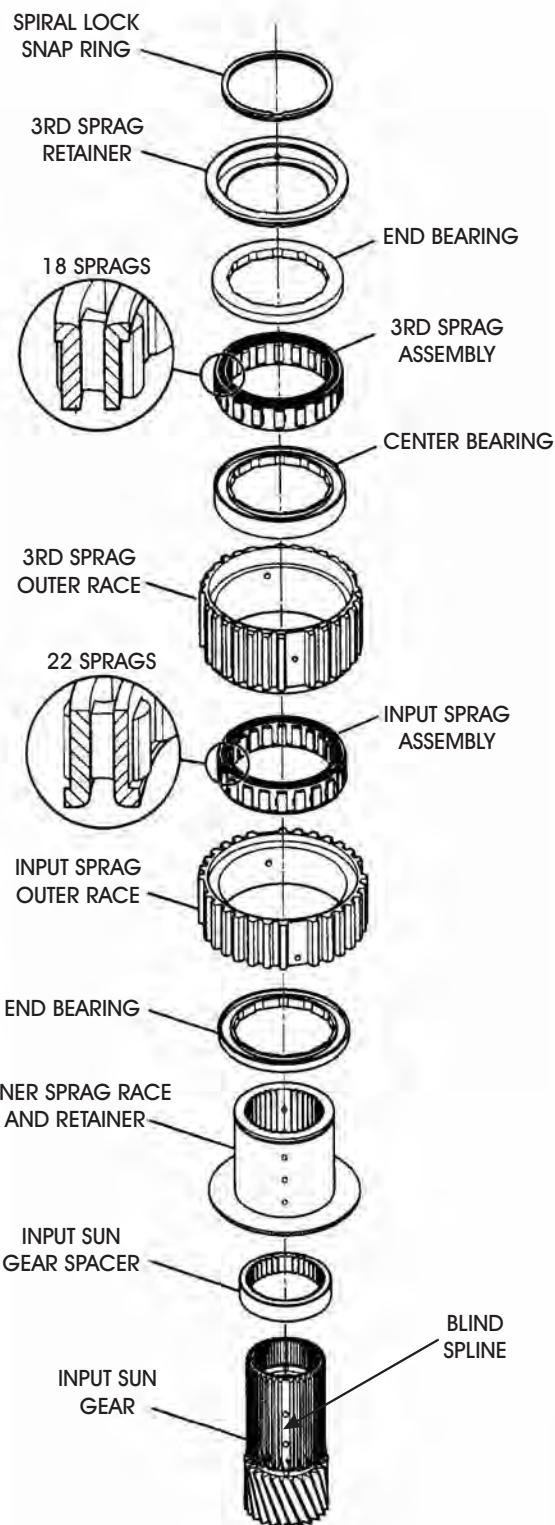
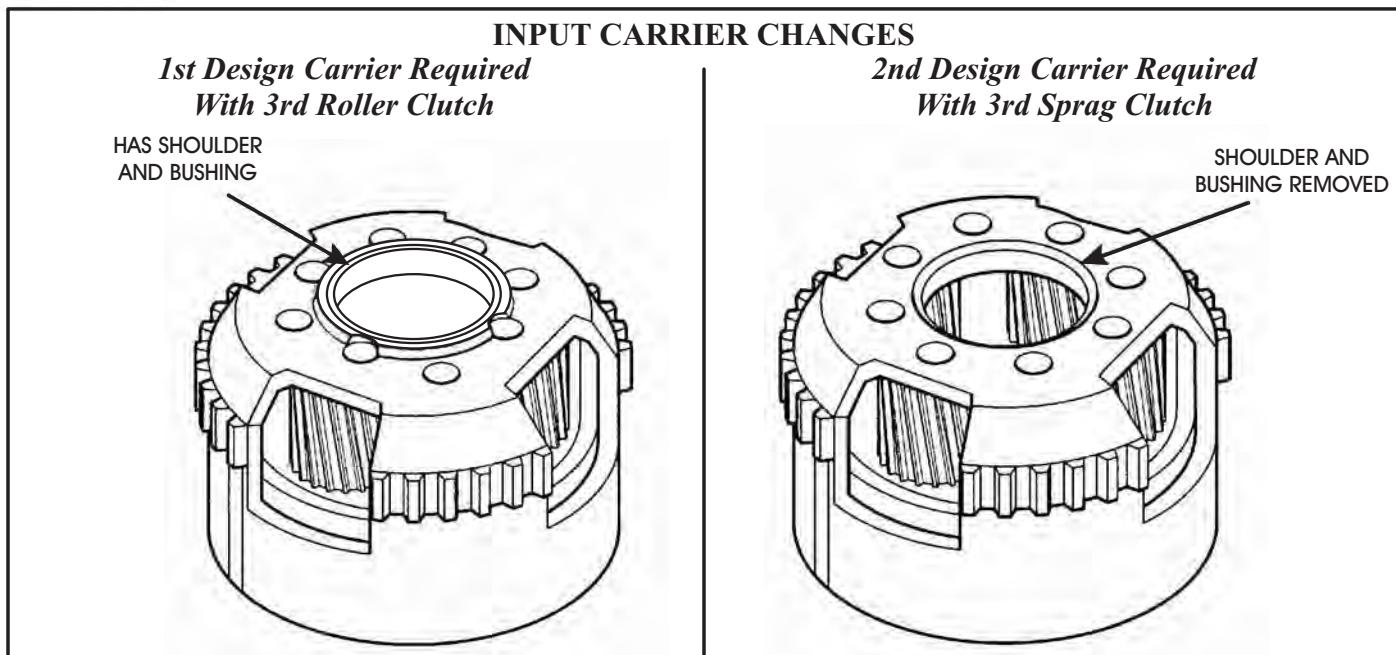

Figure 107
Figure 108
A new design dual sprag assembly replaces the previous 3rd roller clutch and input sprag assembly, as shown in Figure 107. This change occurred on February 1, 1993, as a running change. There are many dimensional changes that make the component parts of these two different design levels non-interchangeable. The new design dual sprag assembly is only serviced as a complete assembly. The new design dual sprag also required a revised input planetary carrier, as shown in Figure 108.
3. Assemble 3rd roller clutch parts while using Figure 107 as a guide.
9. Install the sun gear spacer onto the sun gear, with the lube groove facing sun gear, as shown in Figure 107.
10. Install input sprag retainer onto the sun gear, with the recessed step facing the input sun gear spacer, as shown in Figure 107.
11. Complete the input sprag/3rd roller assembly process using Figure 107 as a guide.